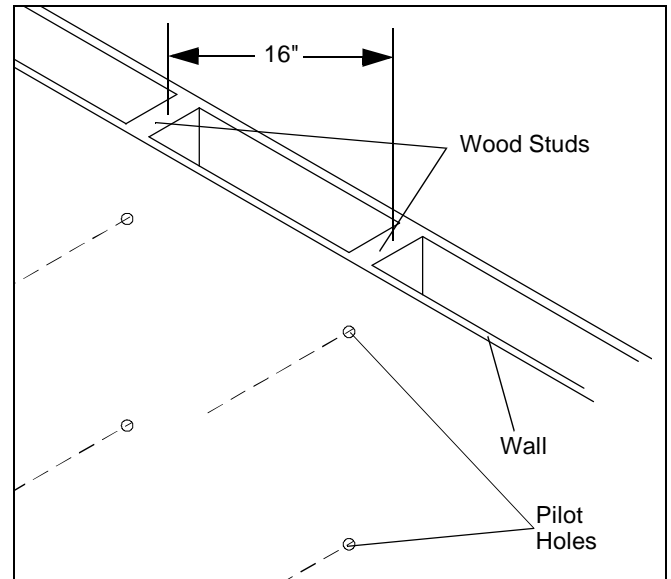

Figure 1
7. Drill two pilot holes using a 7/32" drill bit where the mounting holes were marked for anchoring the top bracket. See Figure 1.
8. Install two 5/16" x 2-1/2" lag bolts (50) and two 5/16" flat washers (60), through PNR Top Bracket and into upper pilot holes.